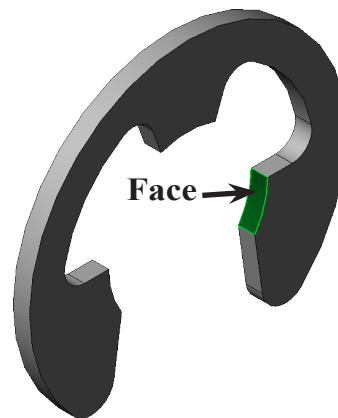

Fig. 19
Step 1. Click the **inside cylindrical face** to select it, Fig. 19.